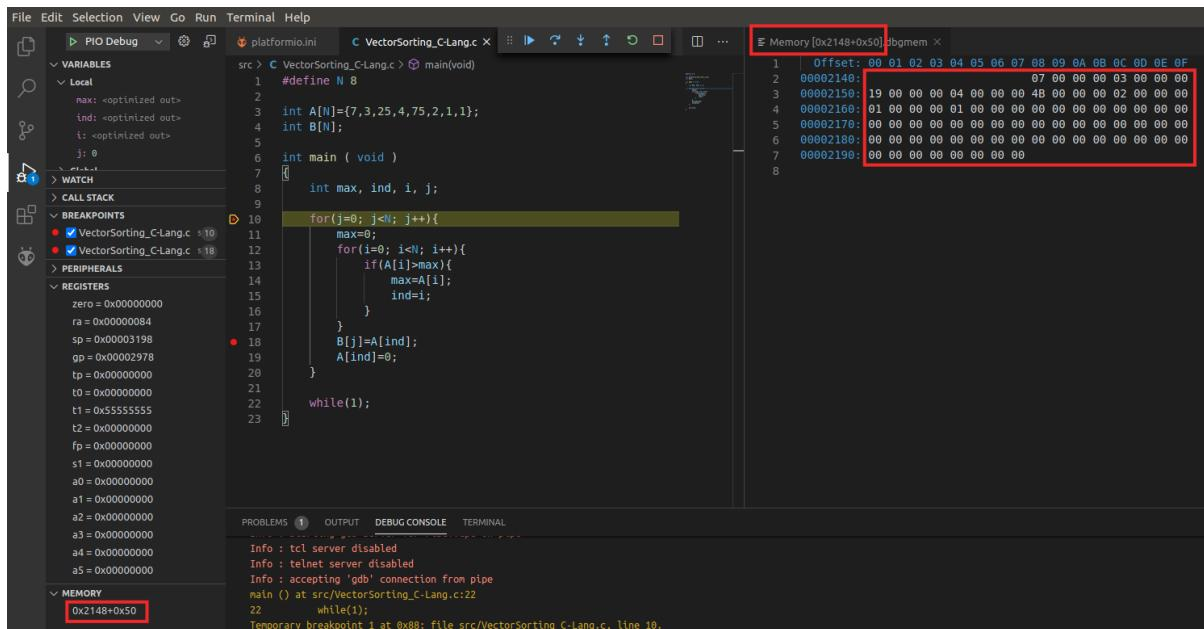

Figure 73. Memory Display for arrays A and B – Initial state.
4. Now place another breakpoint at line 18 and continue execution by clicking on  (see Figure 73). Open the Memory Display (as explained for the LedsSwitches program, Figure 55) and show 0x50 bytes starting from address 0x2148 (see Figure 73), which is the address where vector A is stored in memory for this program. You can view the initial values of vectors A (in the range 0x2148-0x2167) and B (in the range 0x2178-0x2197).